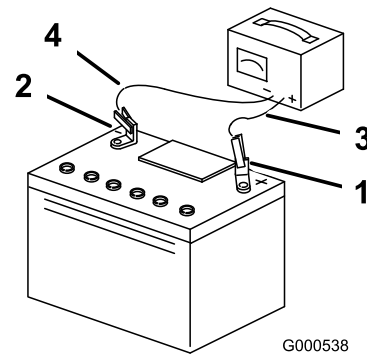

Figure 2
6. Connect the charger leads to the corresponding battery posts as shown in Figure 2.
7. Charge the battery for 10 to 15 minutes at 25 to 30 amps or 30 minutes at 4 to 6 amps (Figure 2). Do not overcharge the battery.
8. When finished, unplug the charger from the electrical outlet, then disconnect the charger leads from the battery posts (Figure 2).